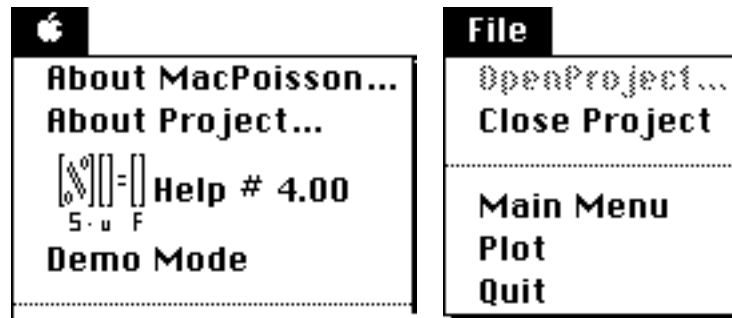
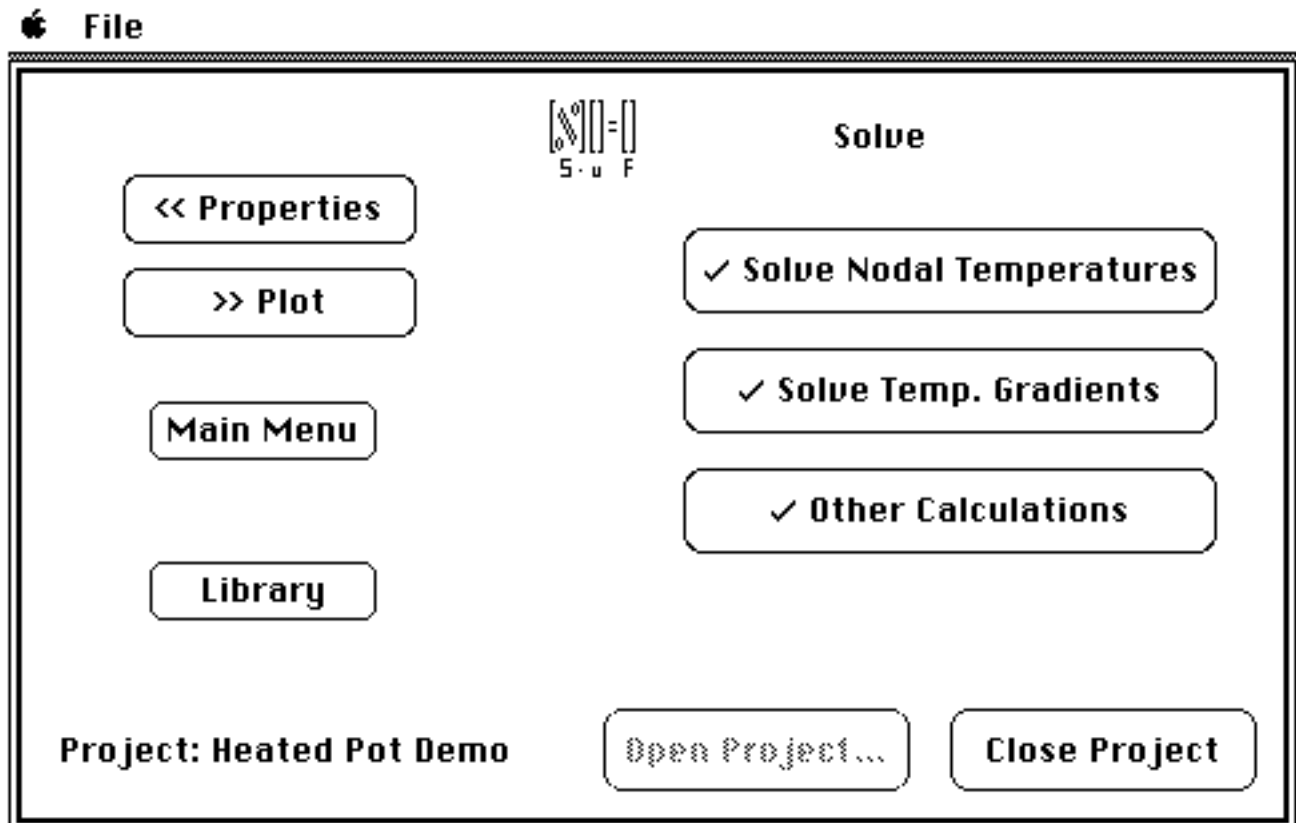
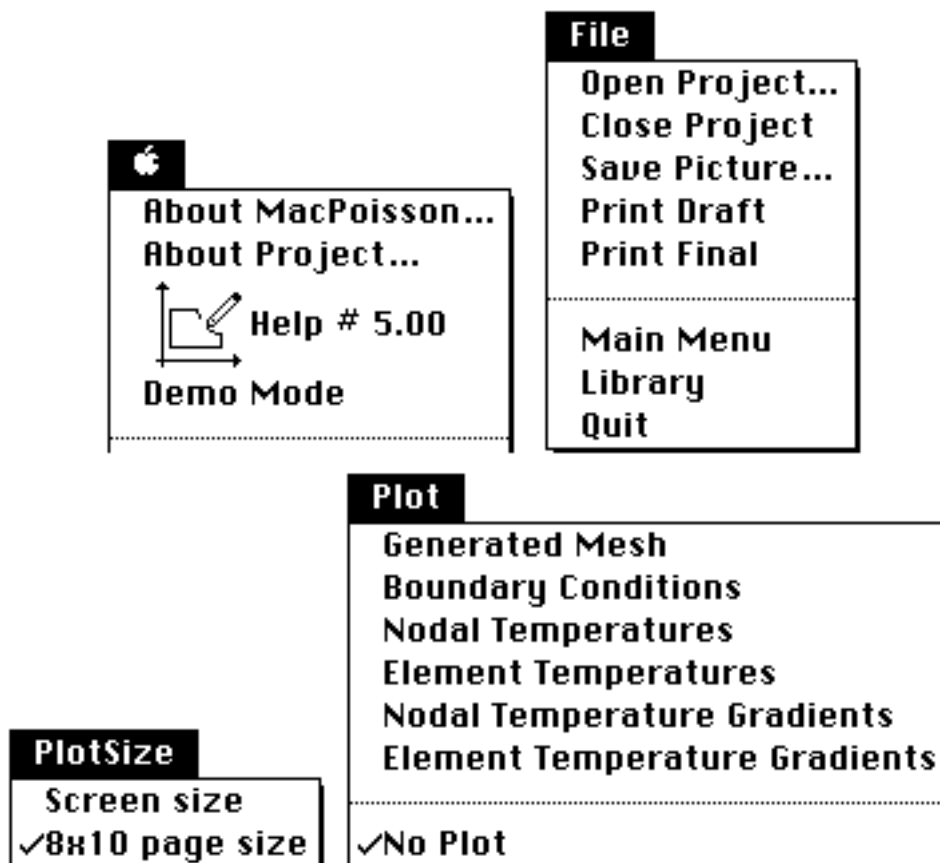

Fig 3.53 Solve menus
Fig 3.54 Solve Module
Fig 3.59 Plot menus, Part 1
The **About MacPoisson...**, **About Project...**, **Help**, and **Demo Mode** commands (Fig 3.53) were described for the geometry module and are the same here, except the help number has changed.
The solve module (Fig 3.54) computes: nodal potentials, average element potentials, and nodal and element gradients, and miscellaneous calculations. You need not calculate all three groups, but if computed, the top-to-bottom order must be followed.
- Click Solve Nodal Potentials (Fig 3.54).
- Click OK (Fig 3.56) to return to the solve module screen (Fig 3.54).
- Click Solve Temp. (Potential) Gradients (Fig 3.54).
- Select Other Calculations (Fig 3.54) for the infrequently needed resultant (or equivalent sources) and resultant surface fluxes.
- Click >>**Plot** on the solve module menu (Fig 3.54) or select Plot from the File menu (Fig 3.53).
Note: To enter Plot, either click the >>**Plot** button on the Solve module screen (Fig 3.54) or double-click Plot on the main menu (Fig 3.5). If you have not opened a project, you must choose **Open Project...** from the the File pull-down menu (Fig 3.59).
The  menu (Fig 3.59) provides the usual information about MacPoisson and the project. The help number identifies the context-sensitive help message from the appendix. You can select and unselect demo mode at any stage. However, Plot creates picture files, but no data files, and, therefore, cannot corrupt the data files as long as you remain in this module. Demo mode does not affect file saving in this module.
- Select Generated Mesh from the Plot menu (Fig 3.59).
- Select No Plot (or Generated Mesh again) from the Plot menu (Fig 3.59) to resume.
- Select Boundary Conditions from Plot (Fig 3.59).
- Select Boundary Conditions from the Plot menu again (Fig 3.59).